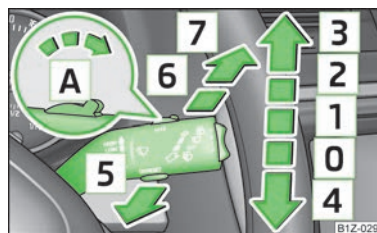

Fig. 35
- If the slower [2] » Fig. 35 on page 49 or the faster [3] wiper setting is switched on and the vehicle speed decreases to below 4 km/h, the lower wiper step is switched on automatically. At a speed increase of more than 8 km/h the previous wiper setting is established again.
- › If you only wish to wipe the windscreen **briefly**, push the lever into the spring-tensioned position [4] » Fig. 35. If the lever is held in the lower position for more than 1 second, the wiper wipes faster.
- › Position the lever upwards into position [1] » Fig. 35.
- › Position the lever upwards into position [2] » Fig. 35.
- › Position the lever upwards into position [3] » Fig. 35.
- › Pull the lever towards the steering wheel into the spring-tensioned position [5] » Fig. 35, the washer system is activated immediately, while the windscreen wipers start wiping a little later. The wash system and the windscreen wiper operate simultaneously at a speed of more than 120 km/h.
- › Place the lever in position [1] » Fig. 35.
- Push the lever away from the steering wheel into position **6** » Fig. 35 and the windscreen wiper will operate every 6 seconds.
- Press the lever completely away from the steering wheel into the spring-tensioned position **7** » Fig. 35, the washer system is activated immediately, while the windscreen wiper starts wiping a little later. The wiper and washer system will operate as long as the lever is held in this position.
- Move the lever back into the home position **0** » Fig. 35.
If the windscreen wiper is in position **2** » Fig. 35 on page 49 or **3** the rear window is wiped every 30 or 10 seconds if the vehicle's speed exceeds 5 km/h.
The headlights are being cleaned after the windscreen has been sprayed for the first time and fifth time, the low beam or main beam are switched on and the windscreen wiper lever was held in the position **5** » Fig. 35 on page 49 for about 1 second.
- › Then press the windscreen wiper lever into position **4** » Fig. 35 on page 49 within 20 seconds – the wiper arms move into the service position.